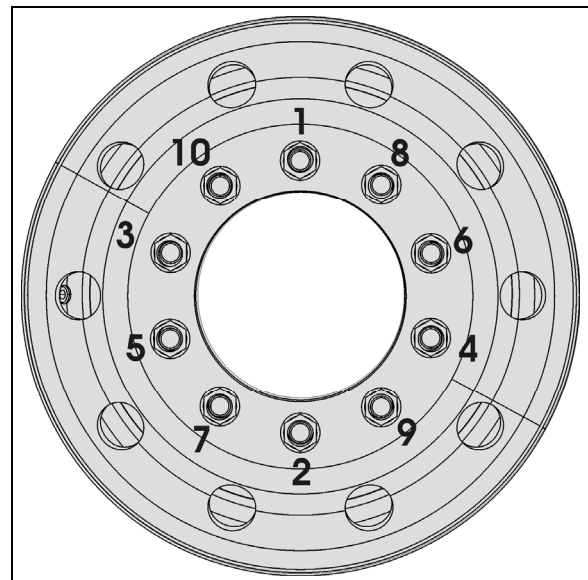

FIGURE 2: TIGHTENING SEQUENCE
It is also important that wheel stud nuts be tightened alternately on opposite sides of the wheel. Refer to Figure 2 for the suggested tightening sequence.
Tighten stud nuts progressively as shown in Figure 2. The final tightening should be done with a torque wrench. Tighten stud nuts to 475 ± 25 lbf-ft (645 ± 35 Nm) for aluminum as well as steel wheels.
2. Screw in the hex stud nuts (refer to Figure 2 for sequence) so that wheel will position itself concentrically with hub. This is important, otherwise wheel may be eccentric with hub and will not run straight. In this initial step, slightly tighten the nuts to correctly position the wheel;
3. Tighten stud nuts progressively as shown in Figure 2. The final tightening should be done with a torque wrench. Tighten stud nuts to 450 - 500 lbf-ft (610 - 680 Nm) for aluminum as well as steel wheel.
With inner and outer wheels installed, tighten the stud nuts progressively as shown in Figure 2. The final tightening should be done with a torque wrench. Tighten stud nuts to 450 - 500 lbf-ft (610 - 680 Nm) for aluminum as well as steel wheel.
Repeat for each of the 10 "hex stud nuts" according to the tightening sequence in figure 2.
Using a calibrated torque wrench, tighten wheel nuts to 450 - 500 lbf-ft (610 - 680 Nm) of torque. Do not use power tools or long bars for tightening. Tighten wheel nuts alternately as shown in figure 2.